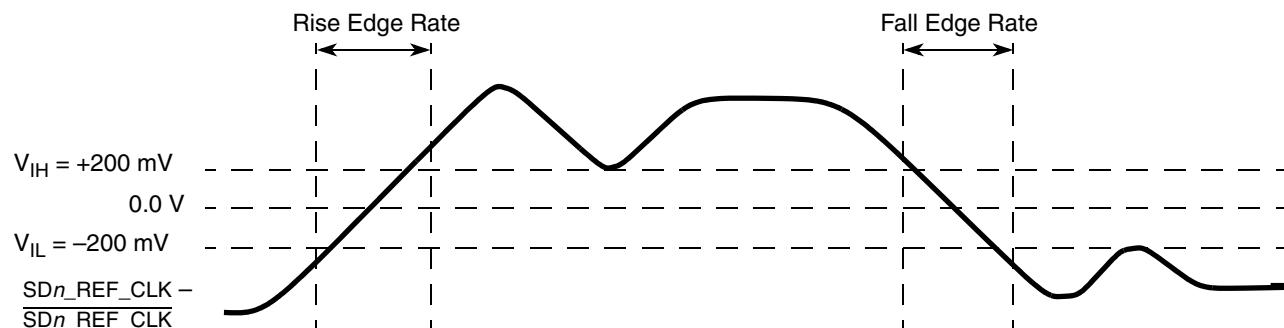

Figure 66. Differential Measurement Points for Rise and Fall Time
3. Measured from -200 mV to +200 mV on the differential waveform (derived from SDn_REF_CLK minus $\bar{SDn_REF_CLK}$). The signal must be monotonic through the measurement region for rise and fall time. The 400 mV measurement window is centered on the differential zero crossing. See Figure 66.